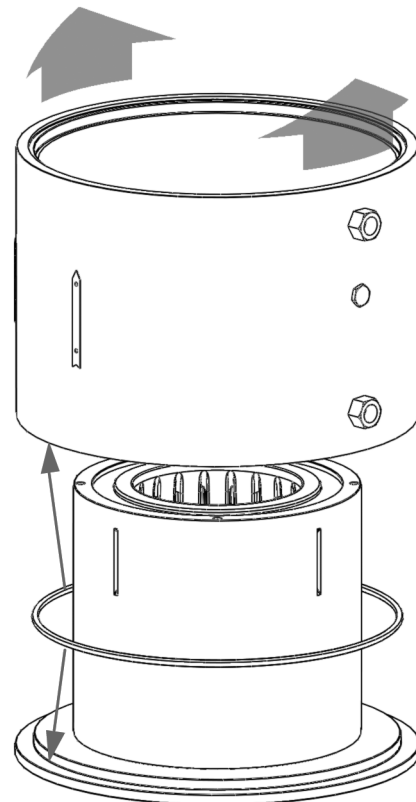

Figure 14 - Remove body sleeve and inlet body sleeve O-ring.
- Remove the body sleeve and inlet body sleeve O-ring as shown in Figure 14 below. Depending on the assembly, the O-ring may come out with the body sleeve or remain on the inlet cover plate.